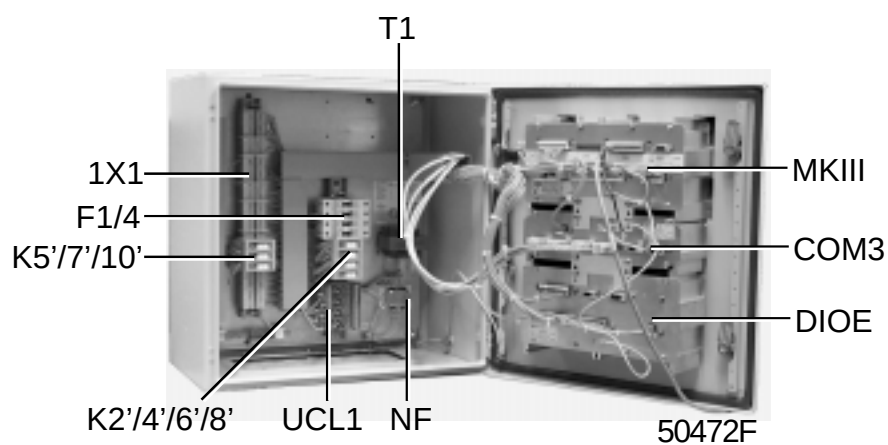

Fig. 1.2. ES100 with communication module (COM3) and digital input/output module
- ES100 with a communication module (COM3) and a digital input/output module (DIOE-Fig. 1.2), allows 7 relay-regulated compressors or a combination with maximum 4 Elektronikon-regulated compressors (Product number 8104 0114 35)